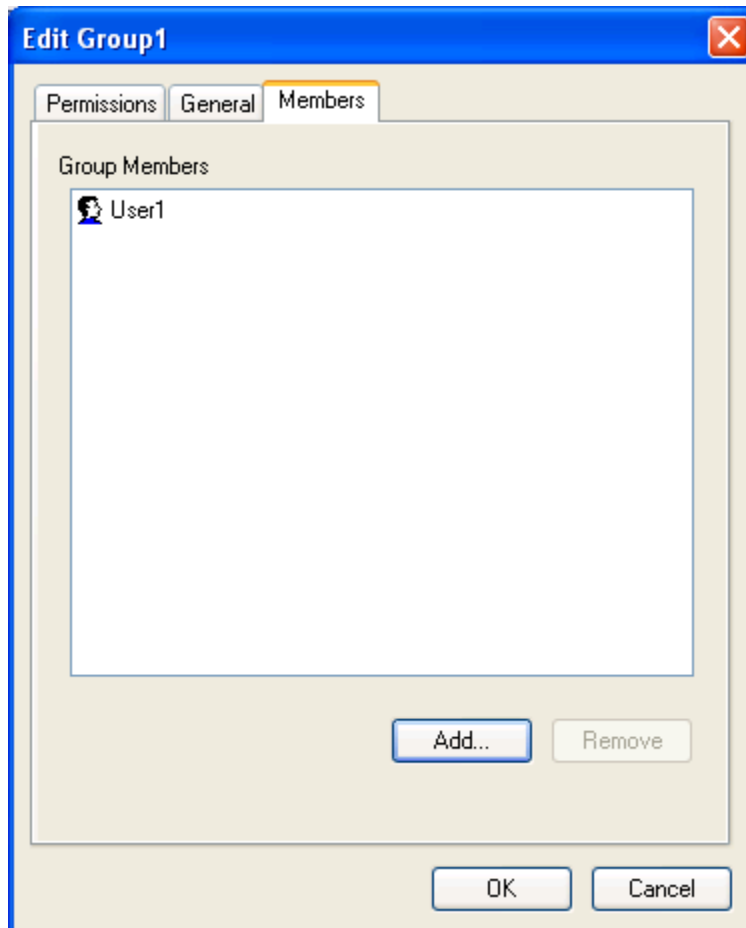

Figure 85 - Edit <Groupname> Window (Members Tab)
On the **Members** tab (Figure 85), the users that are part of the current group are defined. By default, the **Group Members** screen section is empty. In Figure 85, **User1** has been added to **Group1**.
3. Click on the **OK** button. The selected user or users appear in the **Group Members** screen section on the **Members** tab (Figure 85).